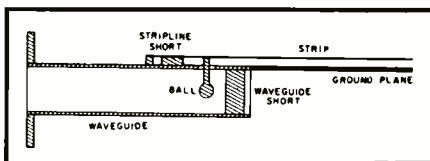

Fig. 4. Ball-probe transition from waveguide to single-ground-plane strip line.
The ball-probe transition from waveguide to coaxial line is the most broadband, so it is natural to consider its use for waveguide to strip line transitions. The ball probe is inherently a low power device, but as strip line is also limited to low power applications, no important characteristics are sacrificed. In such a transition, shown in Fig. 4, the following parameters are important: (1) position of the short in the waveguide, (2) diameter and height of the ball, (3) diameter of the rod, (4) size of the iris in the conductor which forms both the ground plane of the strip line and one wall of the waveguide, (5) position of the short in the strip line. This particular unit was designed for use in the X band with Type C strip line.